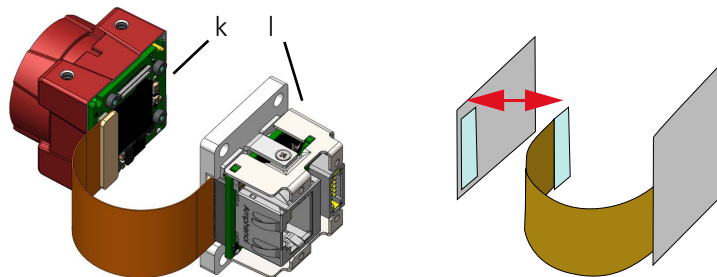

Figure 67: Aligning the connectors of the interface unit and the sensor unit
- Ensure the FPC connectors of the interface and sensor units are oriented to each other as shown in Figure 67. **Do not rotate by 180°.**
2. Align the connectors of the interface unit (l) and the sensor unit (k) to each other as shown in Figure 67.